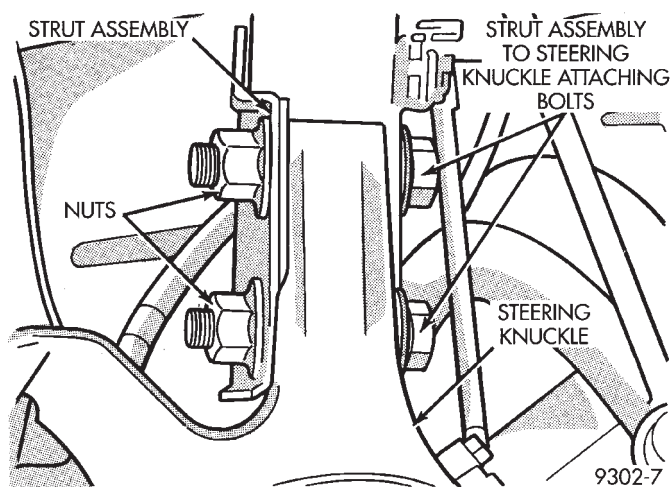

Fig. 12 Strut Assembly To Steering Knuckle Attaching Bolts
(12) Remove the strut assembly to steering knuckle attaching bolts (Fig. 12).
(3) Install the strut assembly to steering knuckle attaching bolts (Fig. 12). Install nuts on attaching bolts (Fig. 12). Torque the strut assembly to steering knuckle attaching bolt nuts to 169 N•m (125 ft. lbs.). **TURN NUTS ON BOLTS DO NOT TURN BOLTS.**